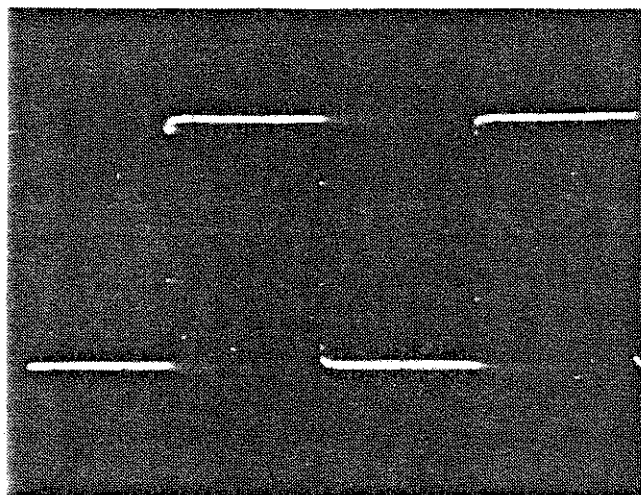

Fig. 4-36 Averaged waveform
- l. CHECK that the Monitor display is an averaged wave form similar to Figure 4-36.